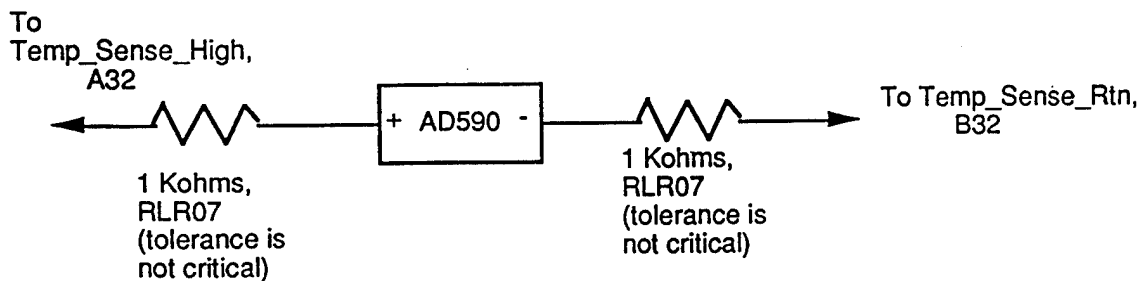

Figure 7 - Temperature Sensing Circuitry
3.2.7.4 Temperature Sensing Circuitry. The temperature sensing circuitry is shown in Figure 7. The AD590 will be provided by NRL. The AD590 is in a 2-pin flatpack package on the following page.